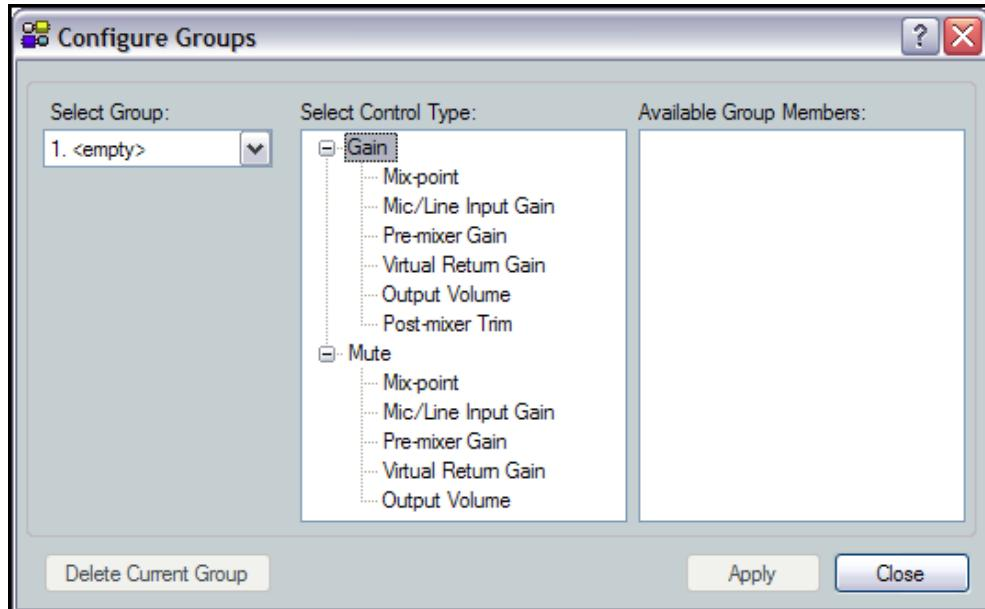

Figure 48. Configure Groups Add Group Dialog Box
2. In the **Select Group** drop-down box, click a group to select it (see figure 48). The list defaults to the first empty group. Select an empty group to begin a new group, or select an existing group to modify.